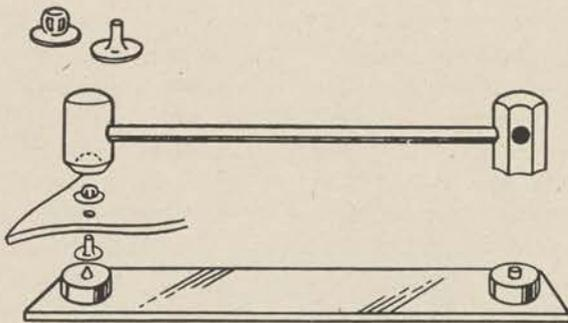

Figure 46.
b. To attach snap fasteners to leather, it is advisable to use one of the sets sold for this purpose. Each half of the fastener is in two parts. The bottom half consists of a post and a spring (fig. 46). The same illustration shows how these are assembled. The post is set on the end of the anvil with the small projection. A hole is punched in the leather just large enough to fit over the post. The spring is placed over the end of the post. The small end of the special hammer which comes with the set is then placed over the spring and is given a sharp blow with an ordinary mallet. This secures the bottom part of the snap.